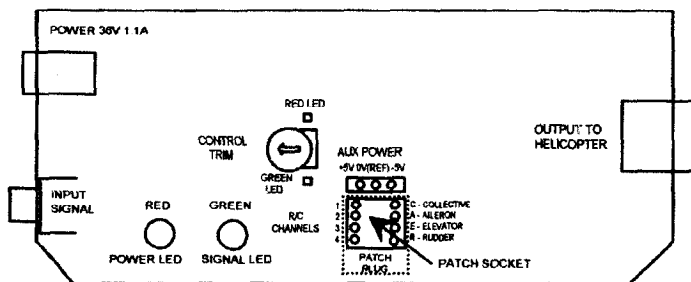

Fig. 6-1
To gain access to the Channel Patch Socket, it is necessary to open the ECP. Please refer to section 14-M for instructions on how to do this. Fig. 6-1 shows the location of the Patch Socket.
The Accessories Pack contains four short lengths of black wire, which will be used to connect the Patch Socket terminals in the required combination for correct operation. They will be used to link the transmitter channel terminals, which are in a row on the left side of the Patch Socket (Fig 6-1), to the flight control function terminals, which are on the right side of the Patch Socket. The wires can be crossed over one another, so that any channel can be connected to any flight control function.
To help determine which channel to assign to each flight control function, there are two small indicator LEDs, one located on each side of the Control Trim Adjuster (Fig 6-1). These LEDs are connected to the Rudder (R) terminal, and light up to indicate when the rudder control is moved. When the rudder is driven to the left, the red LED will light. When the rudder is driven to the right, the green LED will light.
The trim control is located close to the Channel Patch Socket (Fig 6-1). Next to it on the circuit board are two small indicator LEDs, one of which will probably be lit. Before setting the control, ensure that all the transmitter joysticks and trim adjusters are centred, including the collective control, which does not self-centre. Now, using a small screwdriver, slowly turn the ECP trim control in the direction of the indicator light that is lit. While turning the control, at some point the light will go out. The other light will come on if the control is turned further still. At the correct setting, both lights will be off. (If there is no response from the control, check that the transmitter is switched on and properly connected).